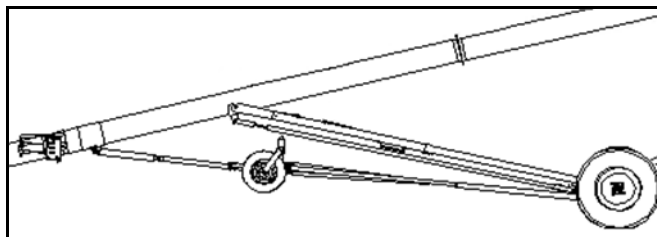

Figure 3.12
2. Elevate the V-frame, undercarriage pipes, and ram assembly to form a straight line (transport position) as shown in Figure 3.12. Tighten the wheel move suspension bracket bolts.